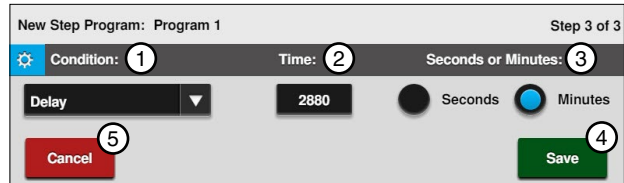

Figure 128-1 1. Delay Condition 2. Time 3. Seconds or Minutes 4. Save 5. Cancel
29. Program the delay time condition for this step. Refer to Figure 128-1.